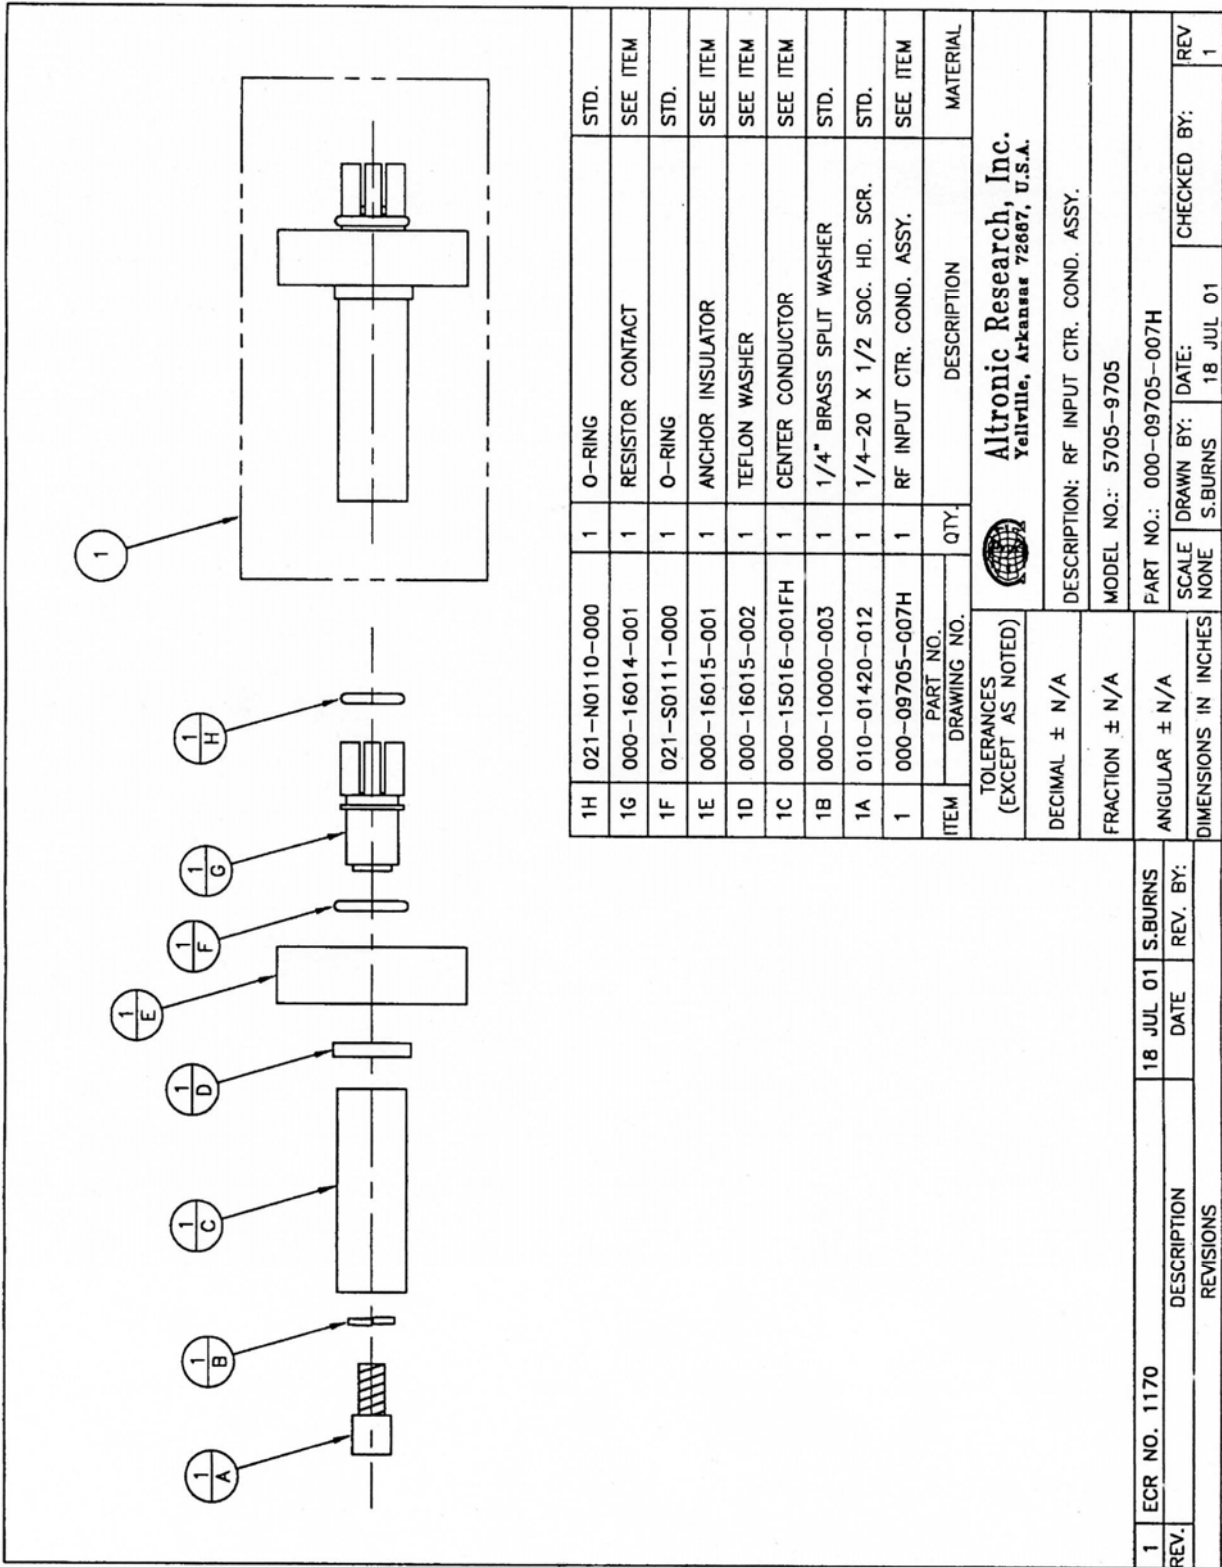

Fig. 16
- 5. Removal of RF Input** - (Refer to Figure 15) To remove the RF input line adaptor flange, remove four 10-24x 3/8" socket head screws (item 2) that secure the line adaptor flange (item 1) to the load body housing (item D, Fig. 14). The RF input assembly consisting of the center conductor, anchor insulator and front resistor contact (items C, D, E, F, G, H, I and J) will normally remain in the load body. Grasp the center conductor (item 3) by hand and attempt to pull the input assembly out of the load body using slight side to side motion while pulling. If strong resistance is encountered, it may be necessary to chill the load to allow the anchor insulator to shrink away from the load housing. This can be done by placing the load in a freezer, or packing the load in ice for 20 to 30 minutes. Once the anchor insulator has shrunk away from the load housing, the RF input assembly should be easily removed. At this point of disassembly, all components of the load can be inspected or replaced as needed. Reassembly should be done in the reverse order of sequence. See Figure 16 for individual component identification.